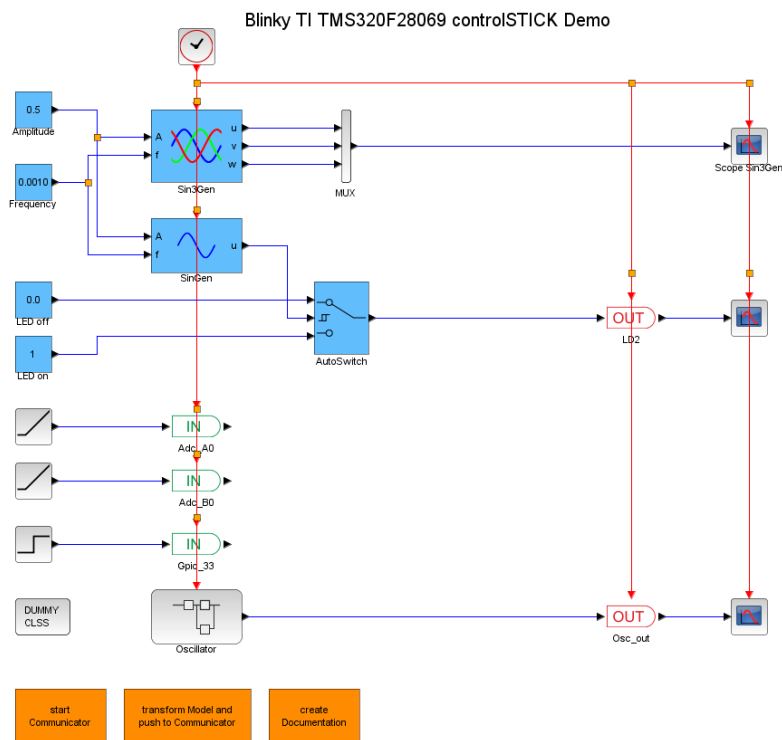

Figure 26: *Blinky* demo application in *Scilab*
2. Double click on **DemoApplication.zcos**. The example project contains a few blocks used to demonstrate the basic function of X2C (see Figure 26). The *Inport* and *Outport* blocks define the interface between the generated X2C code and the peripheral functions (e.g. ADC or GPIO Pins) on the target. For details about each block function read *X2Copen.Doc.pdf* in the documentation folder of the X2C directory.